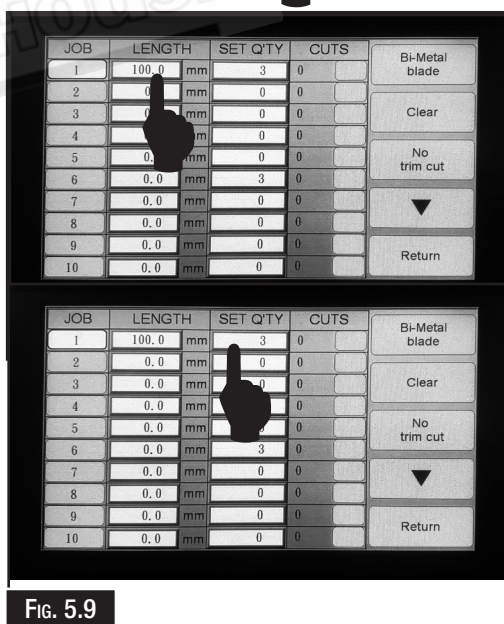

Fig. 5.9
- Press the “length field” on the touch screen controller and enter the length to be cut. (Fig. 5.9)
- Press the “Set QTY field” and enter the number of pieces to be cut. (Fig. 5.9)
- Select the jobs to be cut by checking the program number, the box colour will change from green to yellow meaning the program is selected. (Fig.5.9)